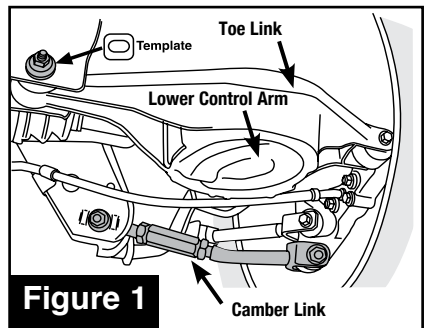

Figure 1
2. Remove inner and outer bolts of lower camber link and remove OE arm (this arm has an OE camber adjustment cam at inner end, see **Figure 1**).